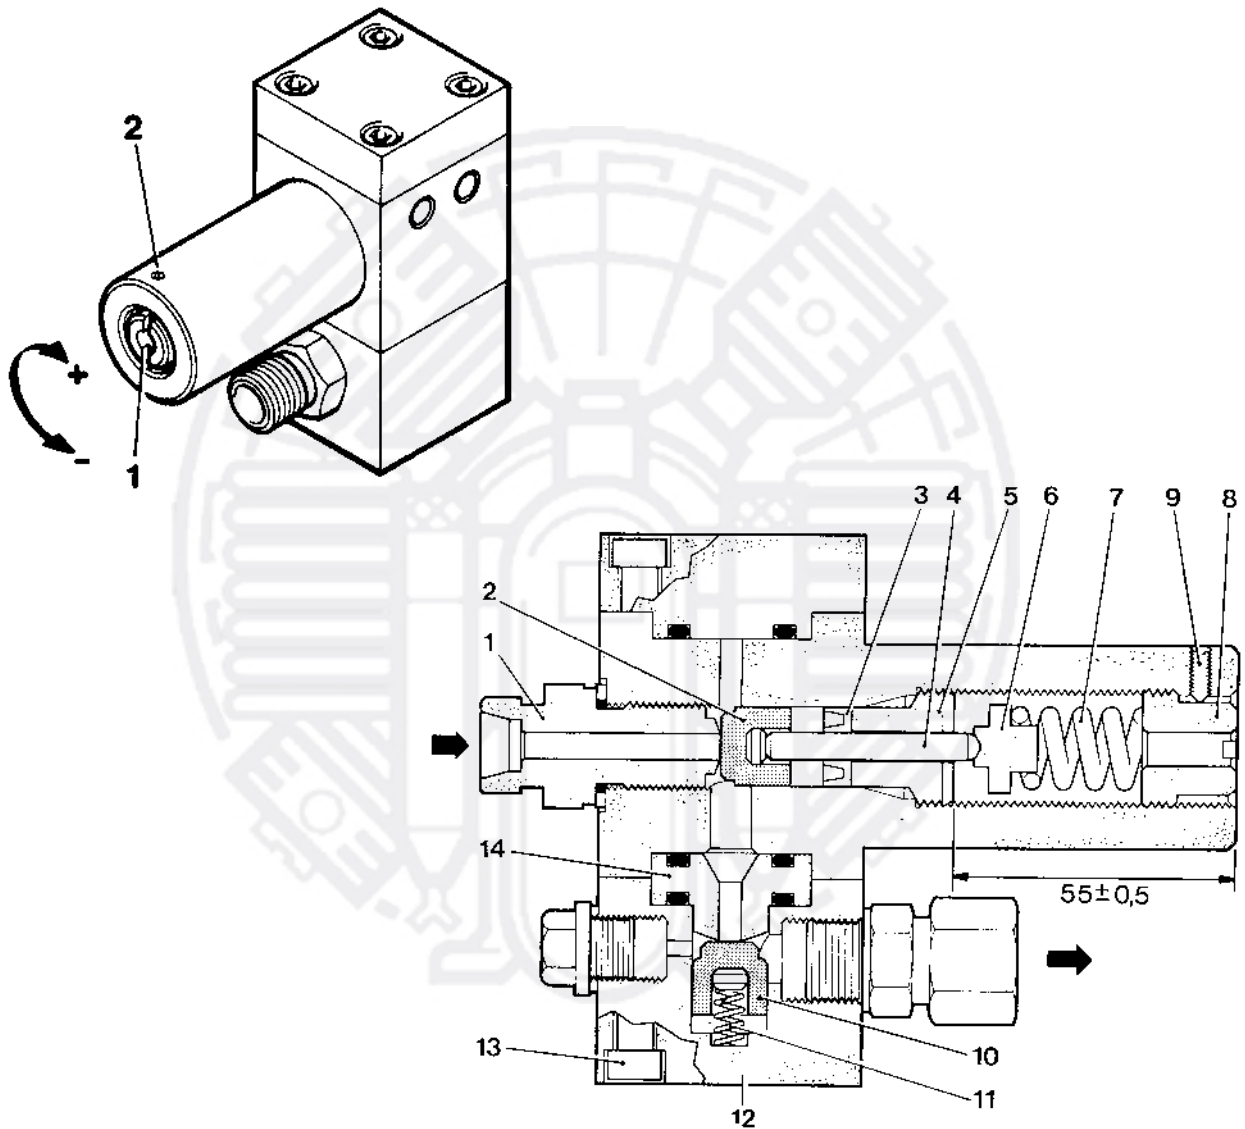

Fig. 69 Pressure maintaining valve, 350 bar units /3600
The opening pressure is adjustable with screw (1, Fig. 69). First turn out stud (2) several turns.